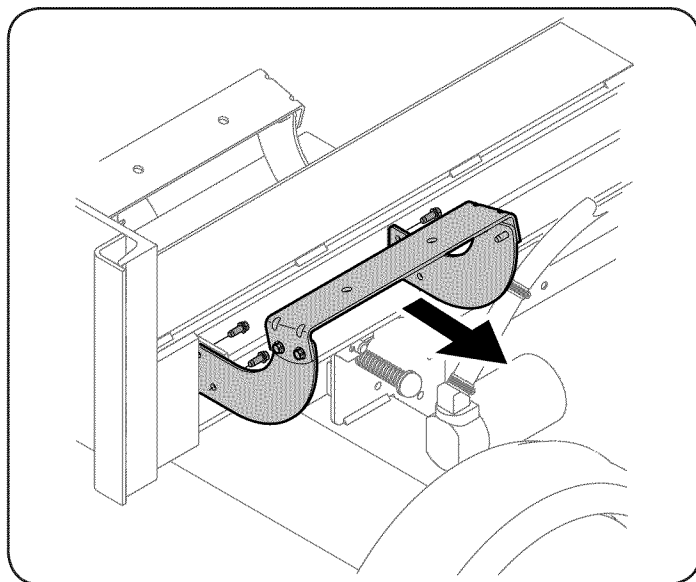

Figure 5
3. Disconnect the log cradle bracket on the control valve side of the beam. See Figure 5.